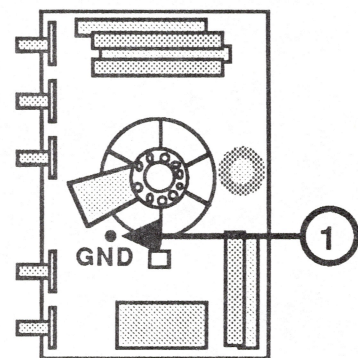

FIGURE 28
15. Reconnect the gray CRT ground strap to the CRT socket board (Figure 28, #1).